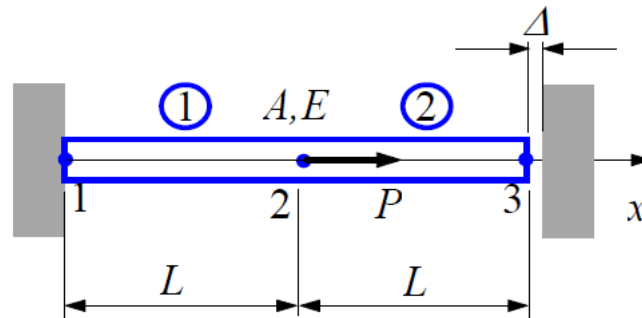

Figure P1.7
7. Determine the support reaction forces at the two ends of the bar shown in **Figure P1.7**, given the following, $P = 6.0 \times 10^4 \text{ N}$, $E = 2.0 \times 10^4 \text{ N/mm}^2$, $A = 250 \text{ mm}^2$, $L = 150 \text{ mm}$, $\Delta = 1.2 \text{ mm}$.